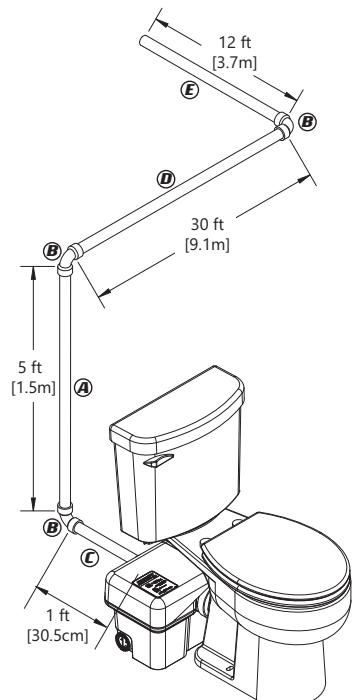

Figure 2. Example Calculations
**For example:** 1" schedule 40 PVC pipe is used for the discharge and runs horizontally for 1 ft, then turns 90°, and rises 5 ft vertical. Then it travels horizontal with another 90° turn (3 turns in total) and connects with the soil-stack. Refer to Figure 2.